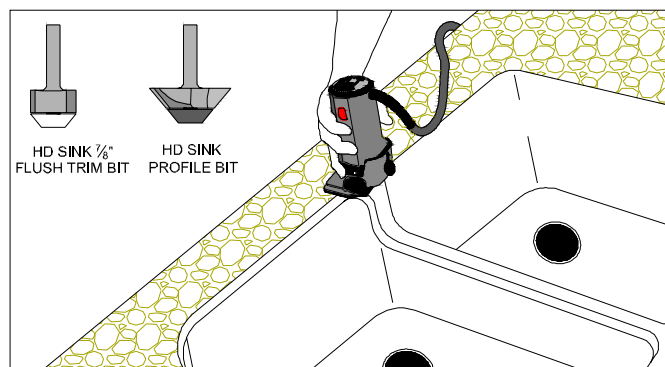

Figure 8B
- Use a laminate trim router with the bottom bearing flush trim bit and flush trim the overhanging laminate. (FIG. 8B)
- Use a laminate trim router with the sink profile bit, profile the edge of the laminate with the angle of the sink. (FIG. 8B)